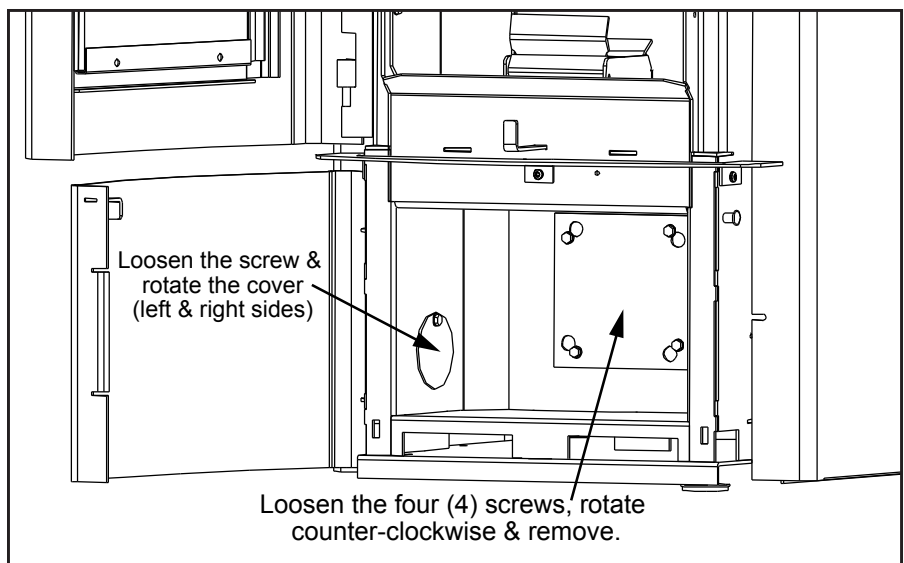

Figure 8: Bern Clean-Out Covers.
- Using a $\frac{5}{16}$ " socket, loosen the six (6) screws in the ash box compartment; four (4) on the back and one (1) on each side (see Figure 8).
- Vacuum out all three (3) chambers.